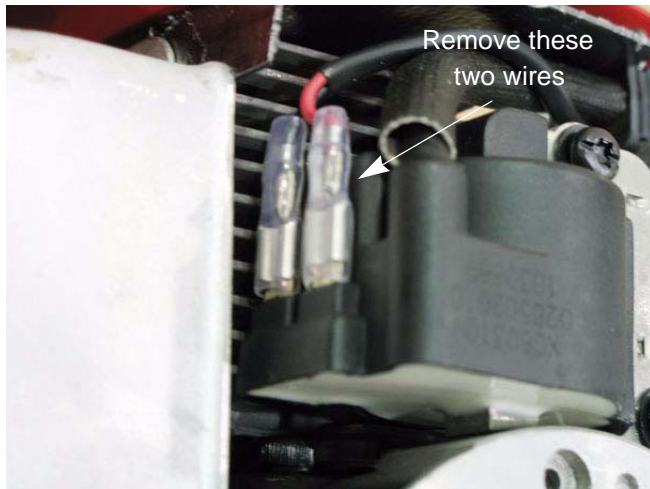

Figure 10.1
- 1a. Disconnect the two wires from the module. See Figure 10.1.